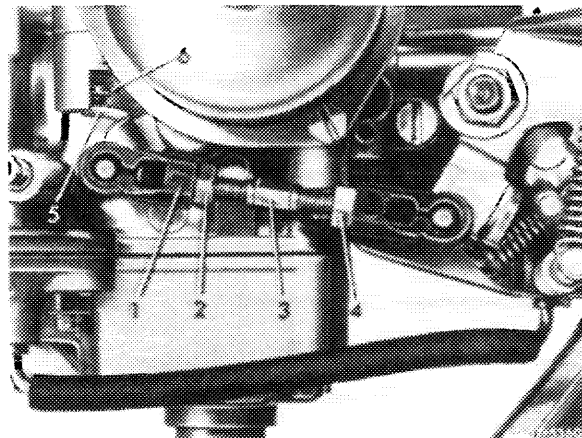

Fig. 07-3/16
1 When the idle speed, the starter and the vacuum governor are correctly adjusted, the venting valve (6) should be lifted by at least 1 mm by the actuating lever (5) when the engine is stopped. Adjust connecting rod (3), if required (Fig. 07-3/16).